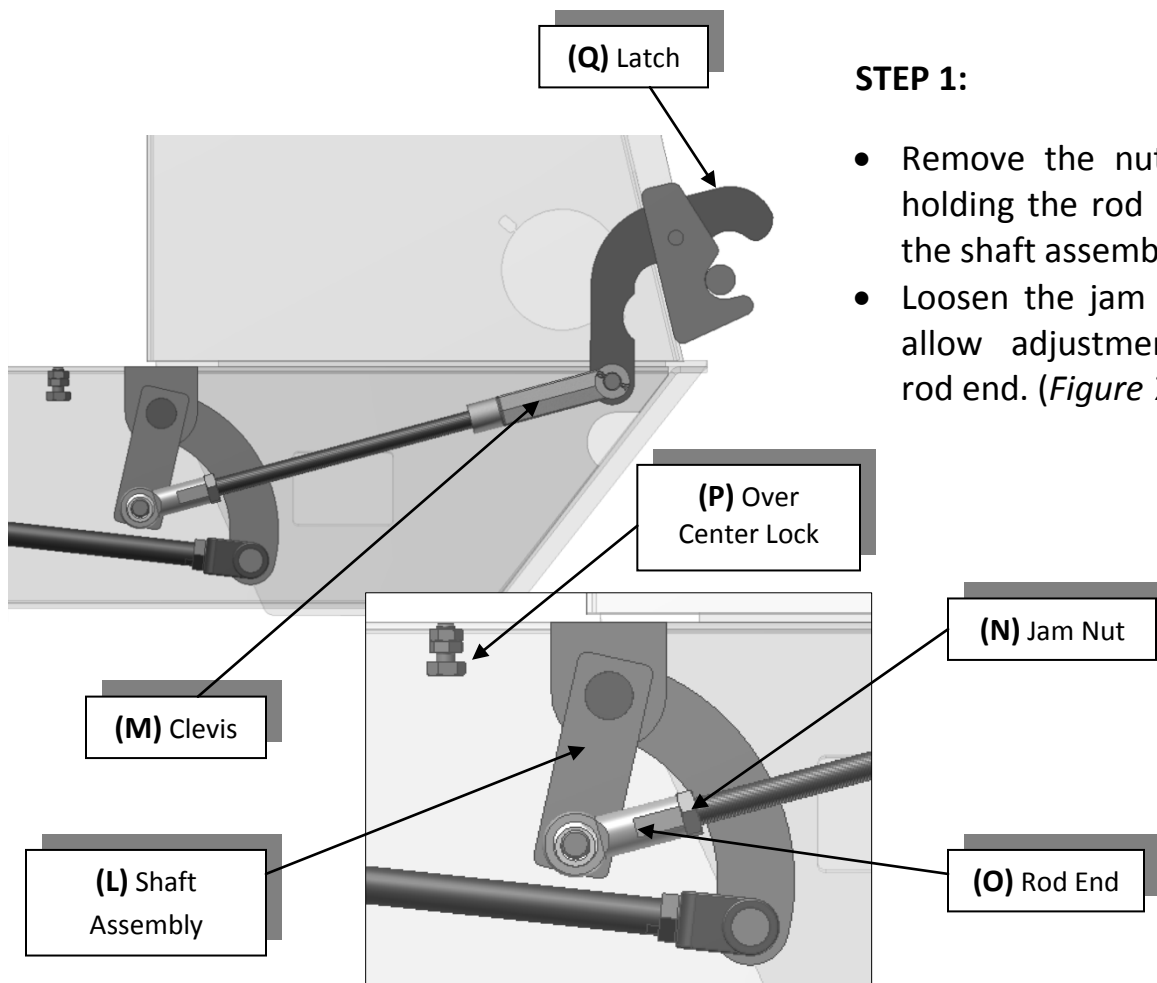

Figure 7 Asphalt tailgate latch opened position
- Loosen the jam nut **(N)** to allow adjustment of the rod end. (Figure 7)